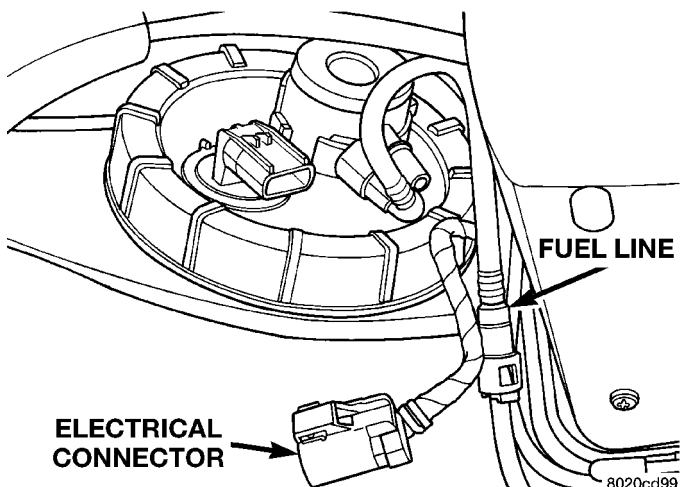

Fig. 51 Fuel Pump Module Electrical Connector
(23) Inspect the fuel pump module electrical connection at the fuel tank for corrosion or damage (Fig. 51). Check for pinched, kinked or damaged fuel supply tube.